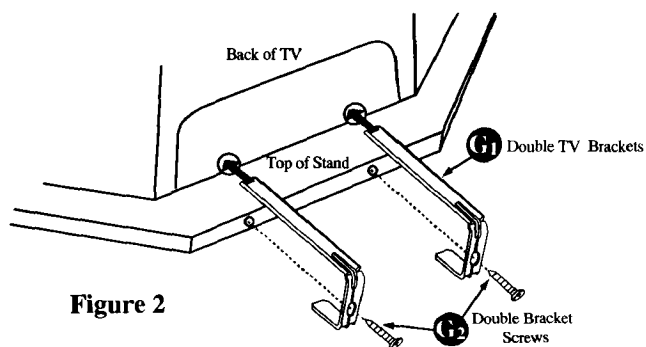

Figure 2
3. Use the double brackets as shown in Figure 2 for models: